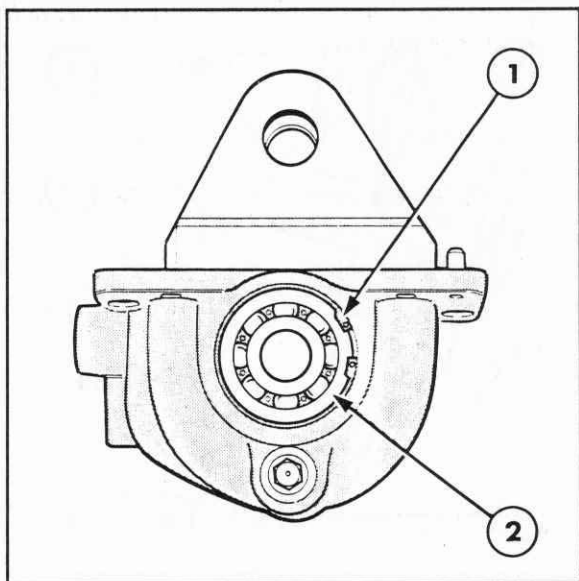

Figure 7-146
13. Remove the rear bearing snap ring, Figure 7-146, and using a suitable press and step plate adaptors, Tool Nos. 630T/14 or 15 or 9211, remove bearing.